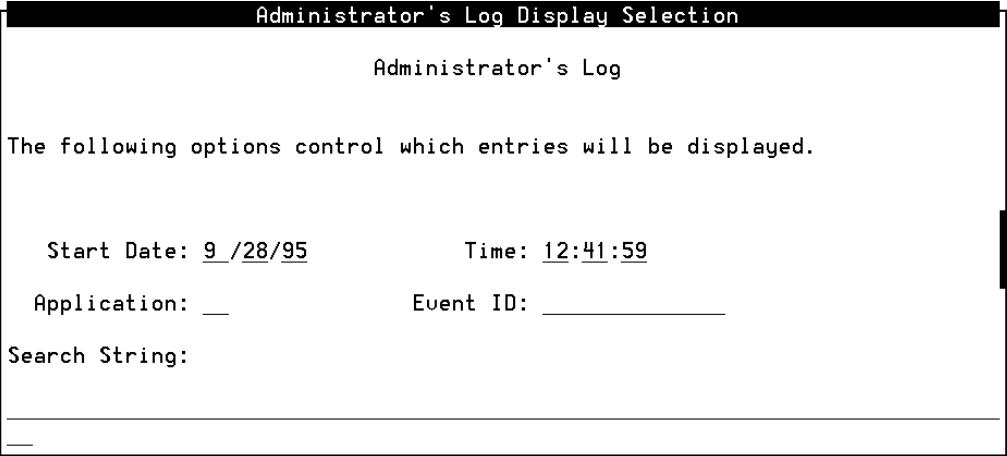
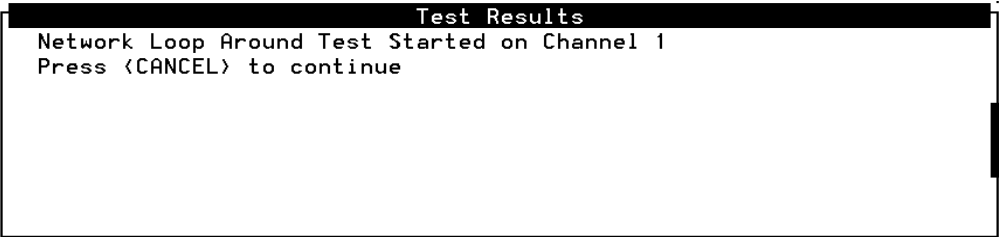
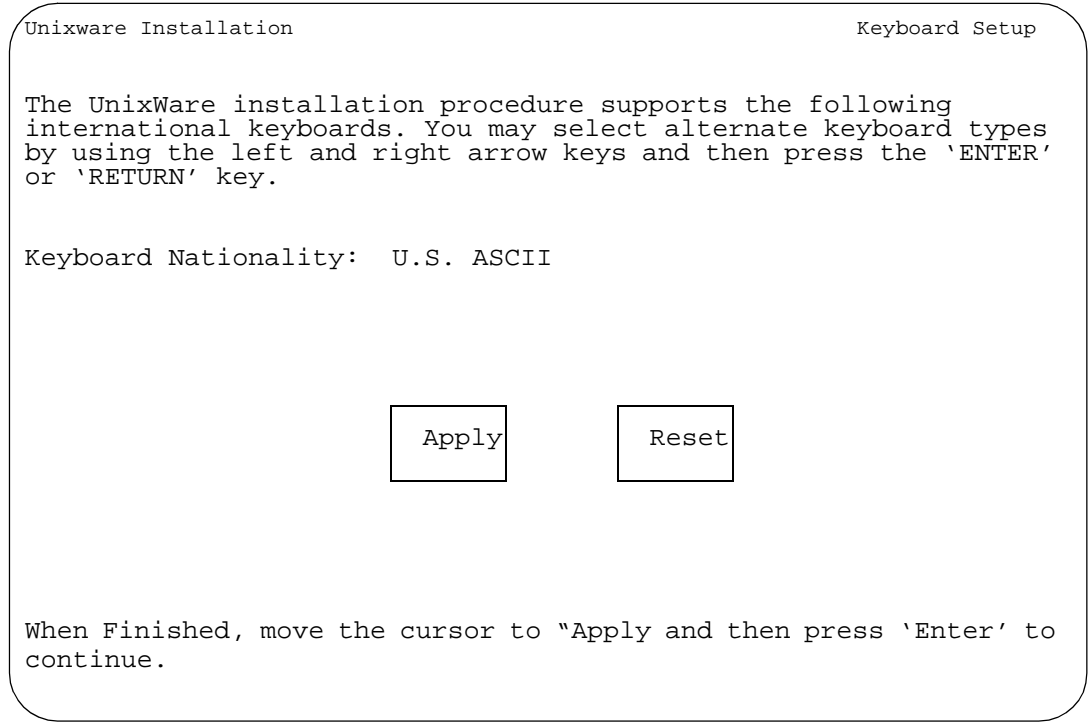
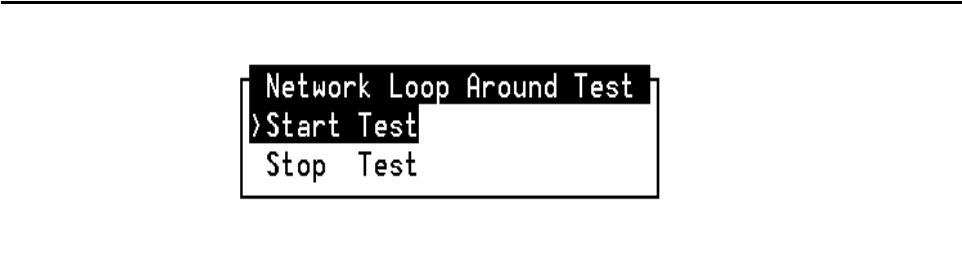

Figure 1. Example of a Lucent INTUITY Window Requesting Information
Figure 2. Example of a Lucent INTUITY Window Providing Information
Figure 3. Example of a Lucent INTUITY Screen
Figure 4. Example of a Lucent INTUITY Menu
- The Lucent INTUITY system displays *windows*, *screens*, and *menus*. “Windows” show and request system information (Figure 1 and Figure 2, respectively). “Screens” request that you enter a command at the `enter command:` prompt (Figure 3). “Menus” (Figure 4) present options from which you can choose to view another menu, or a screen or window.